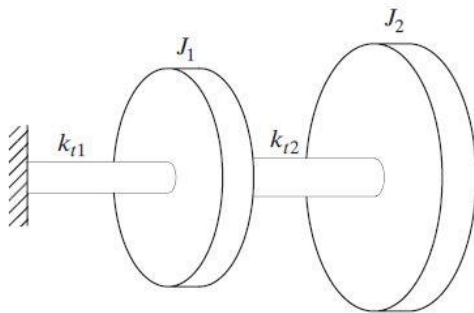

FIGURE 5.38
- 5.36 Determine the natural frequencies and normal modes of the torsional system shown in Fig. 5.38 for $k_{t2} = 2k_{t1}$ and $J_2 = 2J_1$.